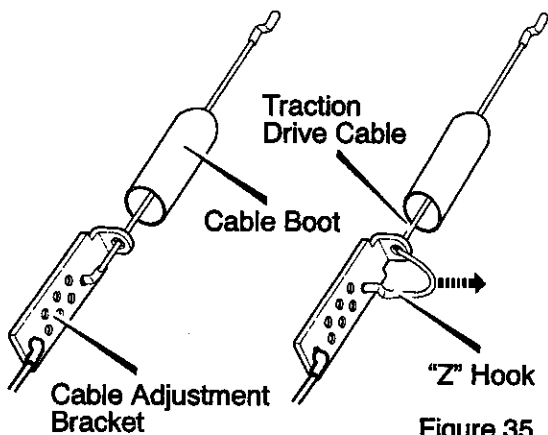

Figure 35
6. Slide the cable boot off the cable adjustment bracket (see Figure 35).